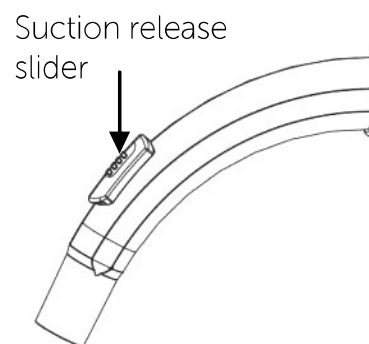

Fig. 2
4. The suction can be released quickly by moving the suction release slider on the top of the flexible hose handle (fig. 2).